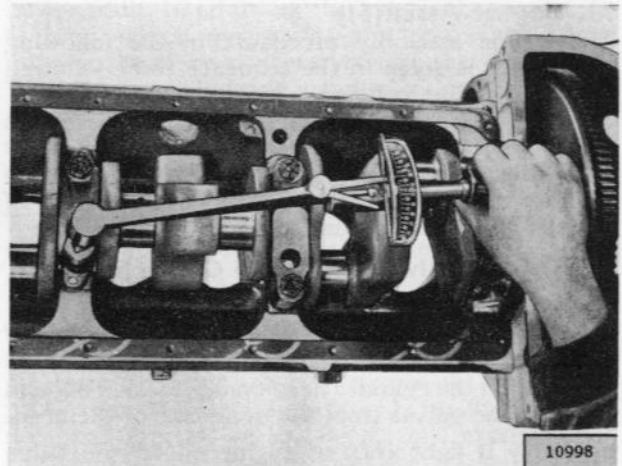

FIG. 126—TIGHTENING MAIN BEARING CAP BOLTS
**d.** Position the lower main bearings (22, 26, and 34) and bearing caps (24, 28, and 33). Tighten the bolts (32 and 33) on each cap evenly to pull the cap into place without bending the dowels or distorting the bearing caps. Torque the bolts to 85 to 95 lb. ft. [11,8 a 13,1 kg. m] as shown in Fig. 126.